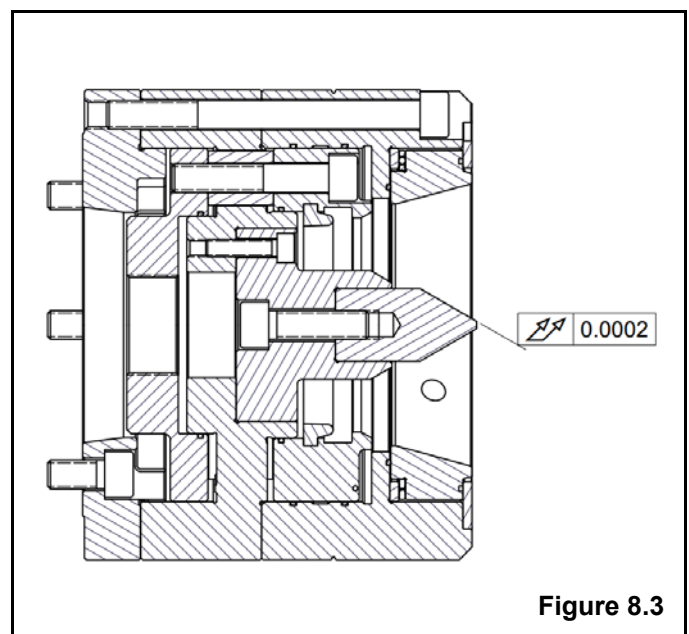

Figure 8.3
2. Indicate the runout center assembly shown in Figure 8.3. Make adjustments to the other (4) radial adjusting screws (item 25B in Section 12) so that the runout of the center assembly is within .0002" (0.005mm).